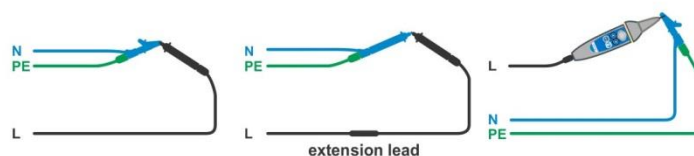

Figure 7.30: Shorted test leads
- › Connect test cable to the instrument and short all test leads together, see **Figure 7.30**.